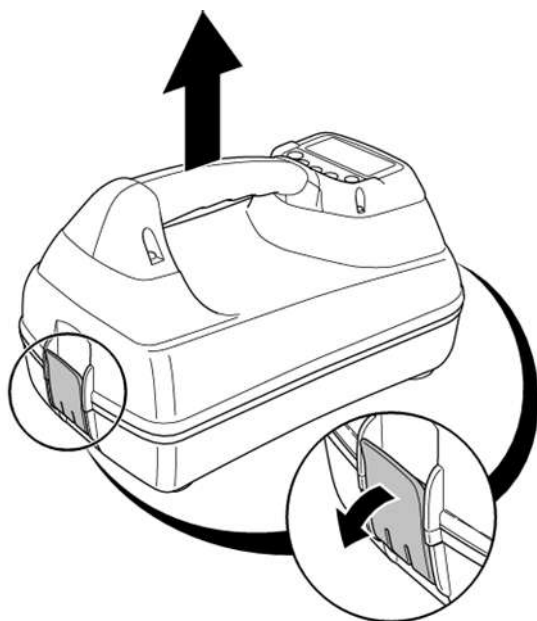

Figure 4.3 Release then remove the accessory tray
- 3 Release the retaining catch (fig 4.3) by pressing gently, then lift the battery pack away